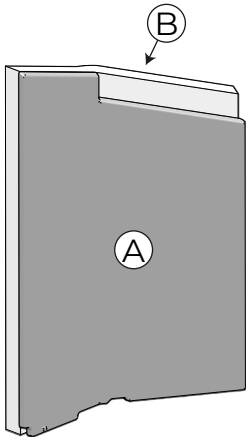

Fig. 7.8
3	Insert the new side plates (A) on the side insulation panels (B) (Fig 7.8)